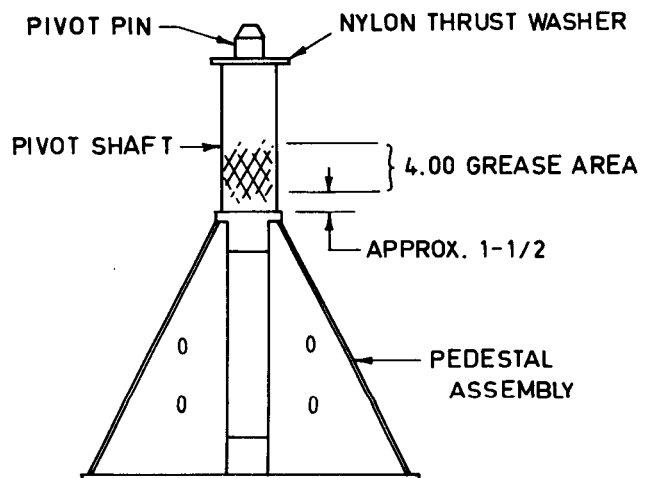

Figure 4
- 13) Remove the protective covering from the top of the pivot shaft which is mounted in the pedestal assembly. Make certain the nylon thrust washer is in its correct position on the top of the pivot pin. The shaft and thrust washer have been pre-lubricated and grease should appear on both sides of the thrust washer and on the outside diameter of the pivot pin. The lower end of the pivot shaft should have a layer of grease on the periphery in the area shown in Figure 4.